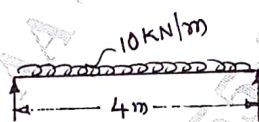

Fig. Q6 (c)
c. Determine maximum slope and deflection for the simply supported beam shown below in Fig. Q6 (c) using standard formula. (07 Marks)